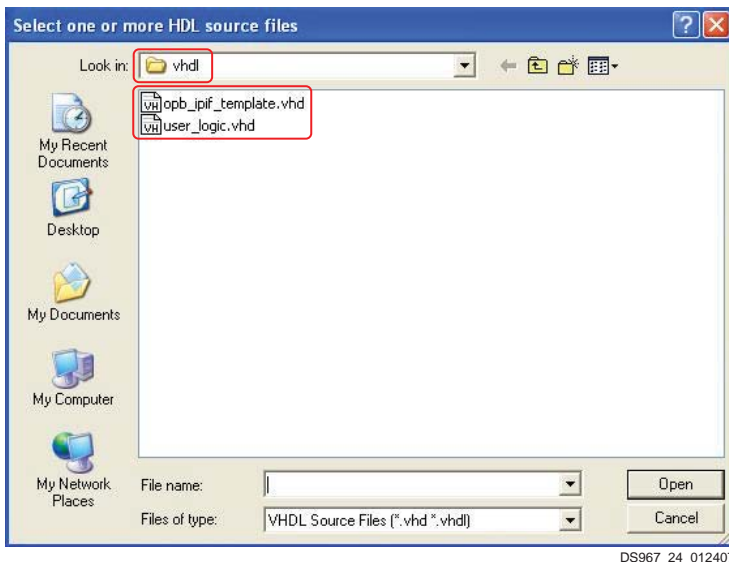

Figure 24: Adding Source Files Manually to the IP From the pcores/hdl/vhdl Location
6. Add the vhd files manually. Select the Add Files ... button, then in the Select ... HDL source files window shown in Figure 24, specify the location of the source files.